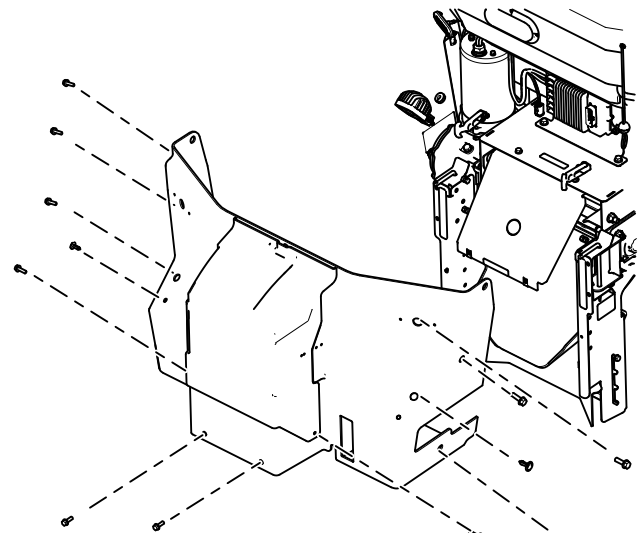

**Figure 2**
- For Forge spreaders, remove the bolts securing the rear cover to the hopper (Figure 2).